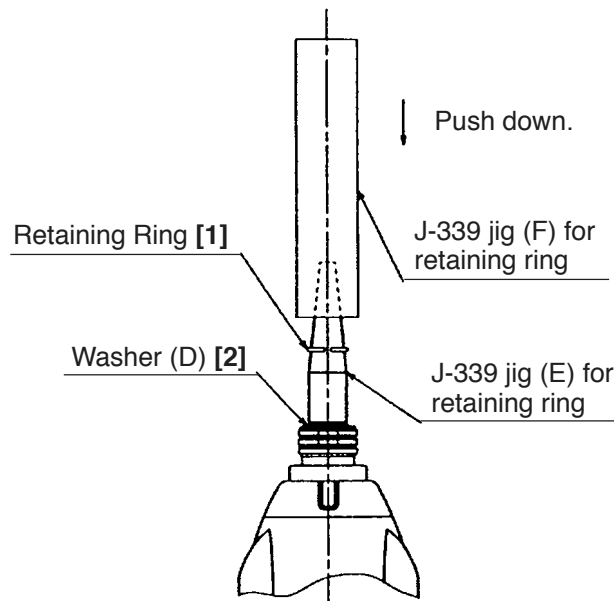

Fig. 18
(6) Mounting Guide Sleeve (D) [4] (Model WH 9DMR only)
Insert the two Steel Balls D 3.5 [9] into the hole of Anvil (F) [10]. Mount Guide Sleeve (D) [4], Guide Spring (B) [3] and Washer (D) [2] in sequence. Mount the Retaining Ring [1] into the groove of anvil using the J339 jigs (E) and (F) for retaining ring as illustrated in Fig. 18.
**NOTE: Be sure to replace the Retaining Ring [1] with new one because the Retaining Ring [1] may be deformed and Guide Sleeve (D) [4] can come off if the deformed Retaining Ring [1] is used again.**